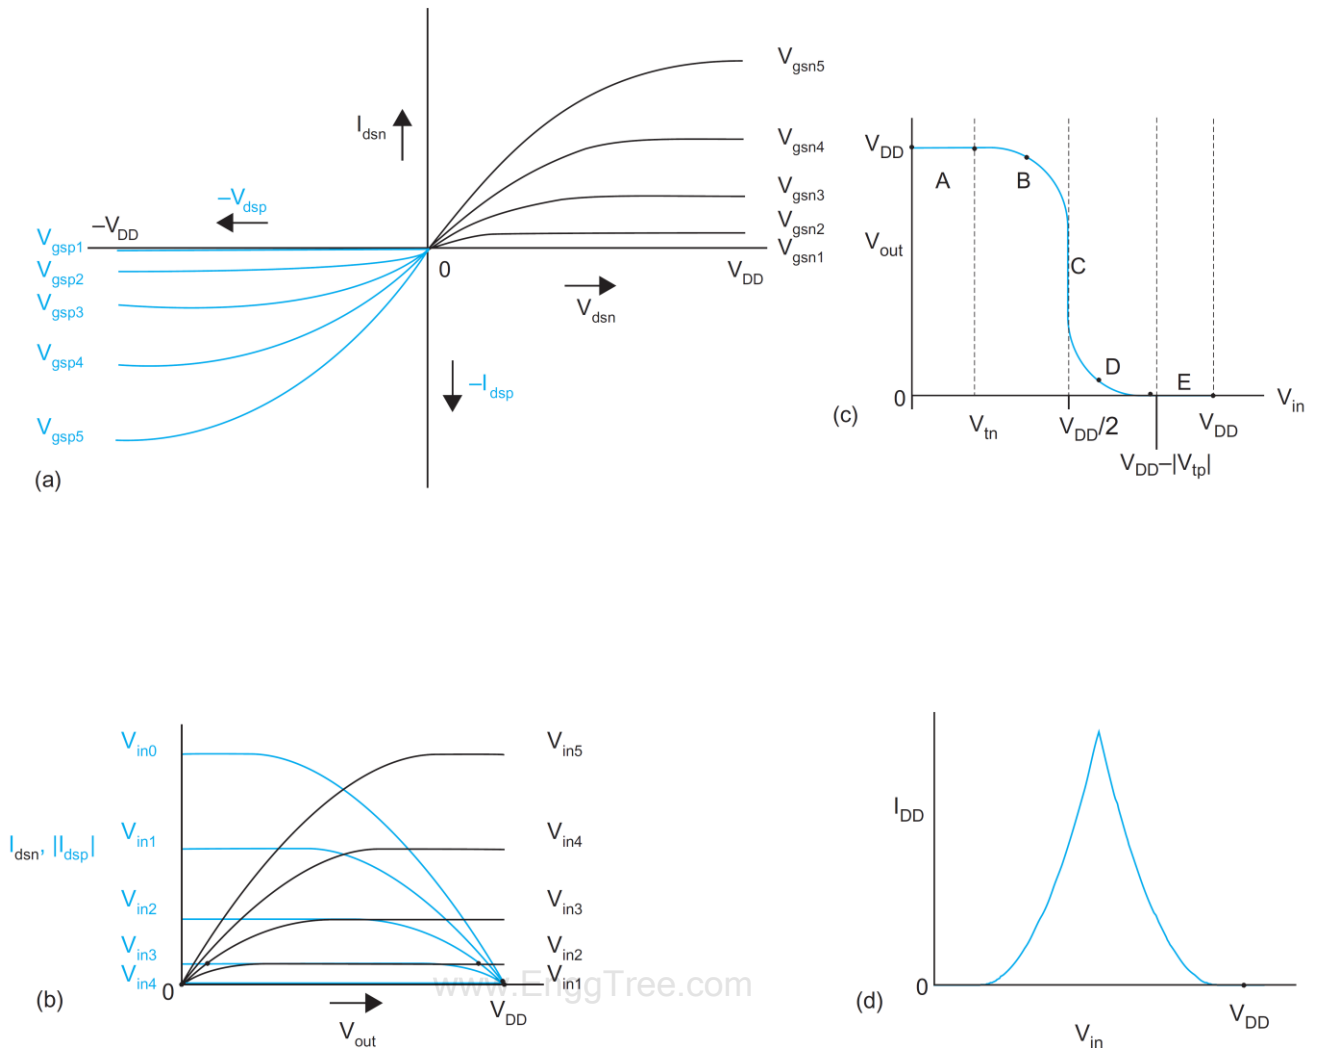

Figure 12: CMOS inverter DC characteristic
- ✓ Figure 12(a), shows I_{dsn} and I_{dsp} in terms of V_{dsn} and V_{dsp} for various values of V_{gsn} and V_{gsp} .
- ✓ Figure 12(b), shows the same plot of I_{dsn} and $|I_{dsp}|$ in terms of V_{out} for various values of V_{in} .
- ✓ Operating points are plotted on V_{out} vs. V_{in} axes in Figure 12(c) to show the inverter DC transfer characteristics.
- ✓ The operation of the CMOS inverter can be divided into five regions as indicated on figure 12(c).